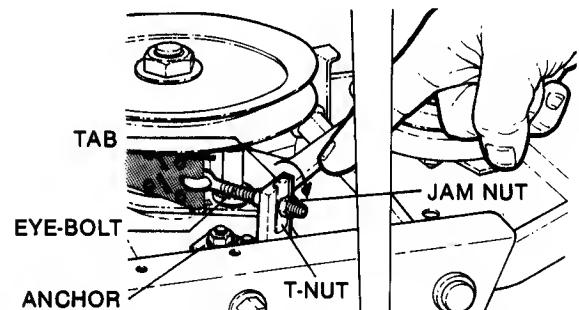

FIG. 11 - BLADE BRAKE ADJUSTMENT
As the brake band wears, the BLADE lever will gradually stop further rearward in the slot of the BELT COVER. BRAKE adjustment is required when the lever stops $1/2"$ from the top of the belt cover. The adjusting point is shown in FIG. 11. With the engine stopped, the adjustment is made as follows:
STEP 2: While holding the BLADE lever firmly in the rearward position, loosen the jam-nut on the end of the eye bolt (refer to FIG. 11).